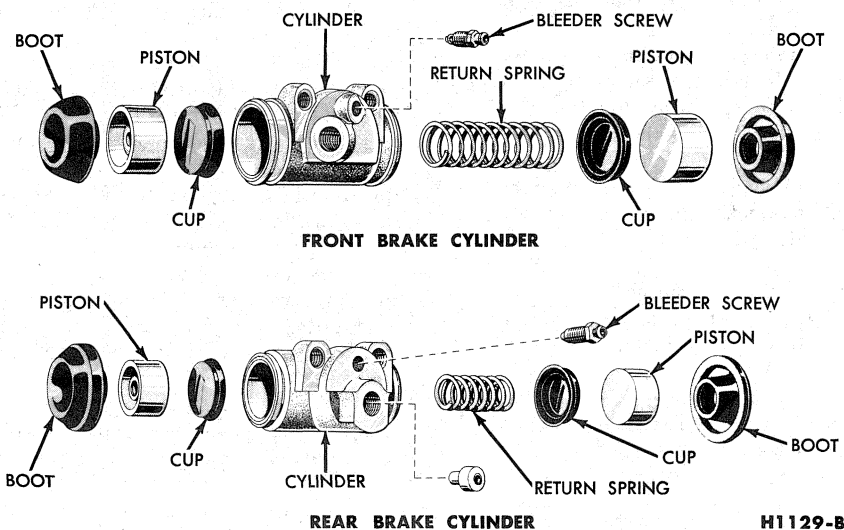

FIG. 11—Front and Rear Wheel Cylinders—Typical
1. Remove the rubber boots (Fig. 11). Remove the pistons, cups, and return spring from the cylinder bore.
3. Insert the return spring, cups, and pistons (Fig. 11) in their respective positions in the cylinder bore. Place a boot over each end of the cylinder.